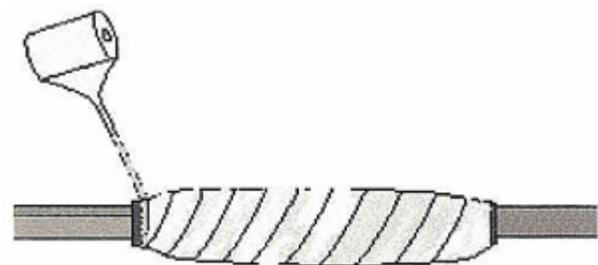

Figure 6
11. Starting at one sealant collar, loosely wrap the encapsulated bundle with one half-lapped layer of 3-mil splice wrap. At the opposite sealant collar, twist 6 inches of the splice wrap to form a cord, and tightly wrap the cord around the sealant collar. Refer to Figure 6.